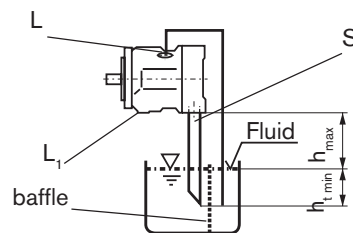

fig. 4
Pipe port "L" and "S" acc.to.fig. 4, port "L1" closed.
a) When mounting above the reservoir: see fig. 4 (compare item limiting conditions)